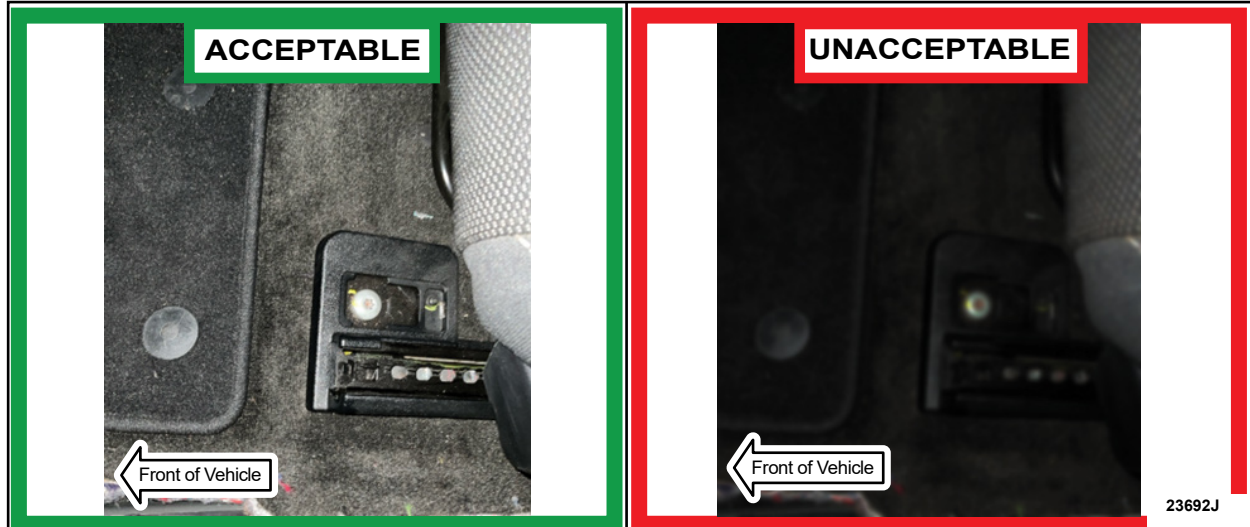

FIGURE 2
5. Capture a clear image of the front outboard attachment point of the seat track on both sides of the vehicle. See Figure 2.